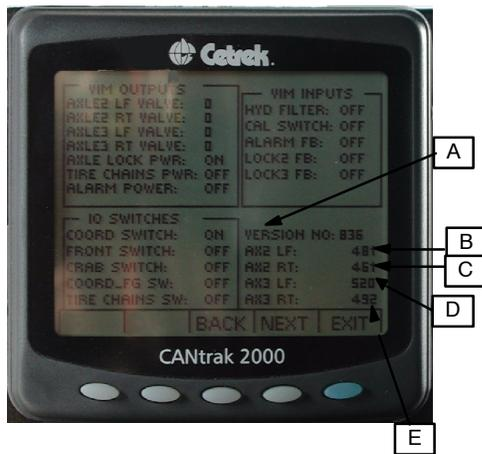

Figure 8. I/O Screen Showing Software Rev And Thresholds
2.1.11 Miscellaneous Information (See Figure 8)